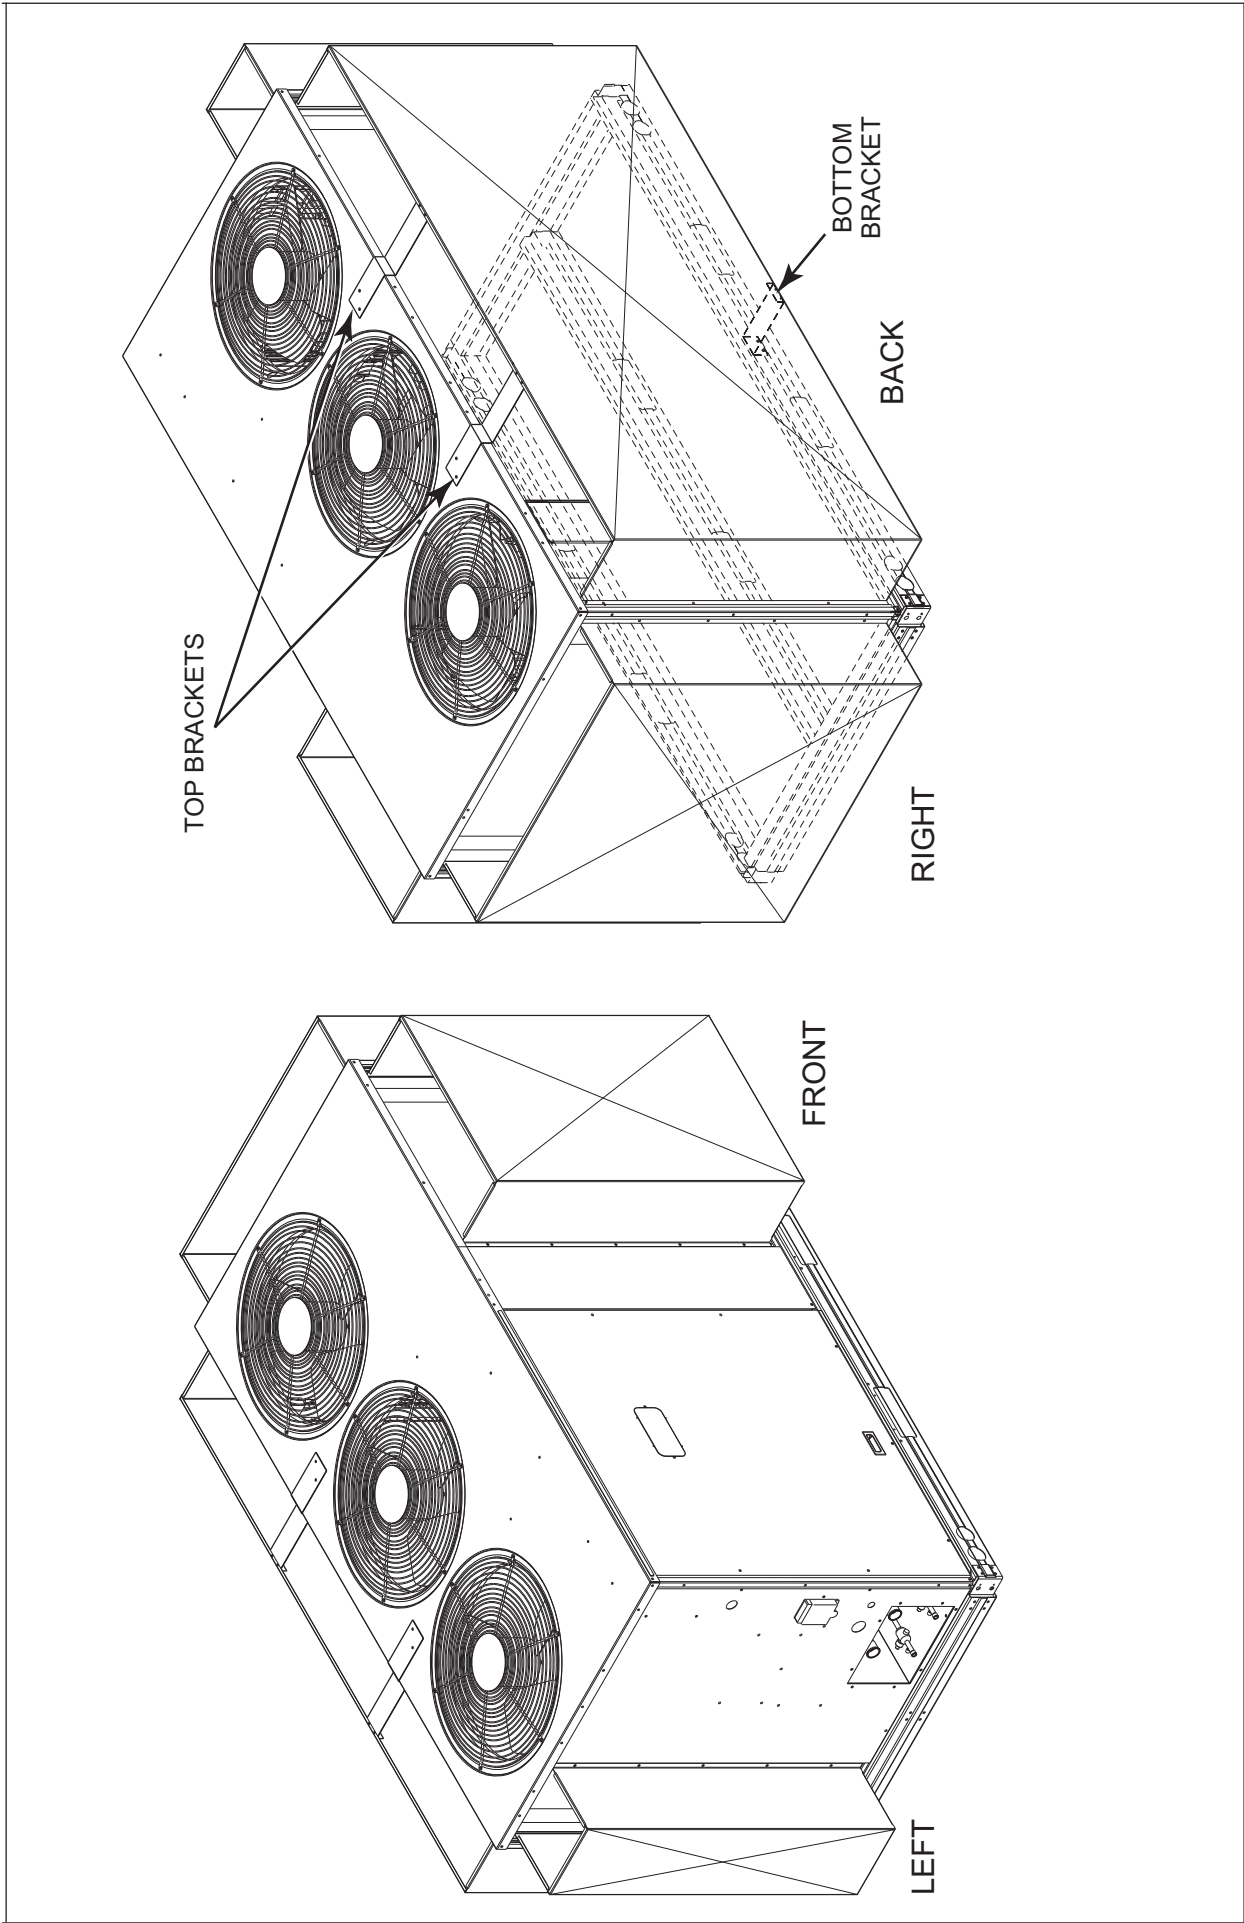
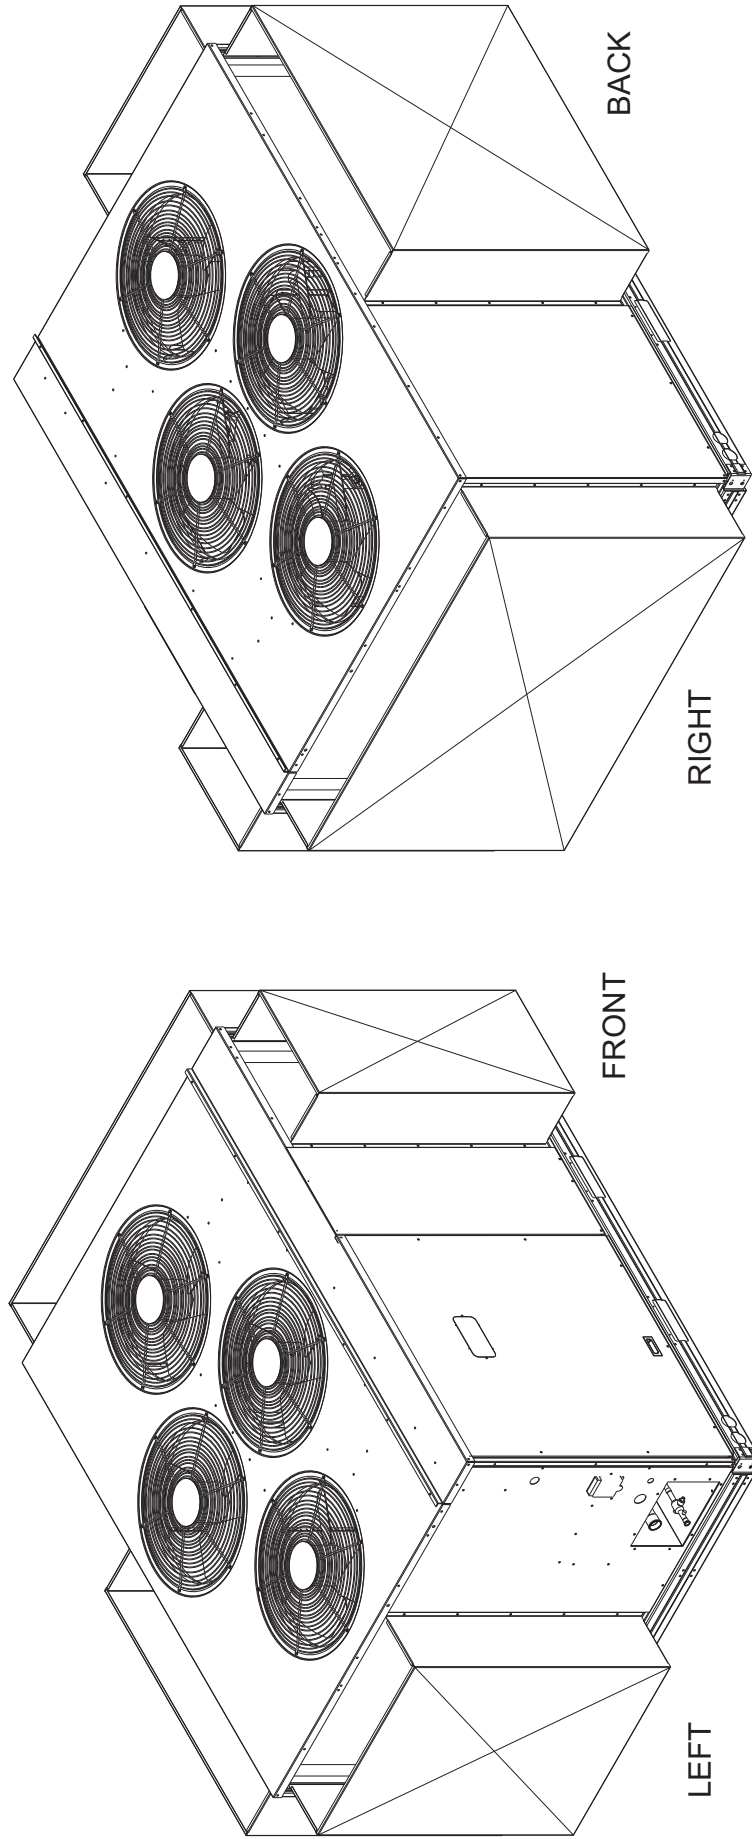

Fig. 37 - Wind Baffle Installation — 15 Ton Units
Fig. 38 - Wind Baffle Installation — 20 Ton Units
- Install the wind baffles as show in Fig. 37, for 15 ton units and Fig. 38, for 20 ton units .